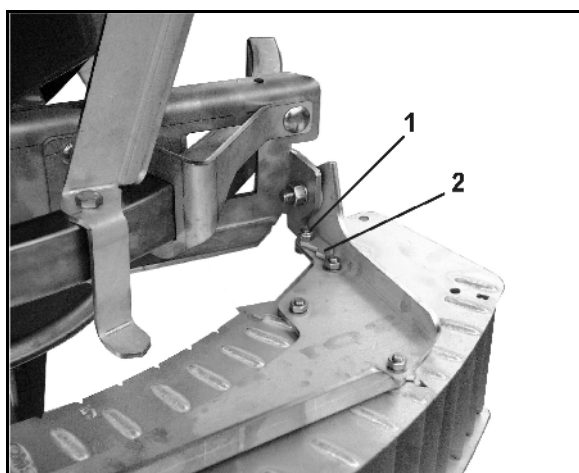

Fig. 98
On the upper side of the border spread deflector you will find on the right hand and left hand side each one setting lock (Fig. 98).
1. Slacken the nuts (Fig. 98/1) of the setting locks.
3. Position the setting locks up (Fig. 98/2) to the stop and firmly tighten the locks.